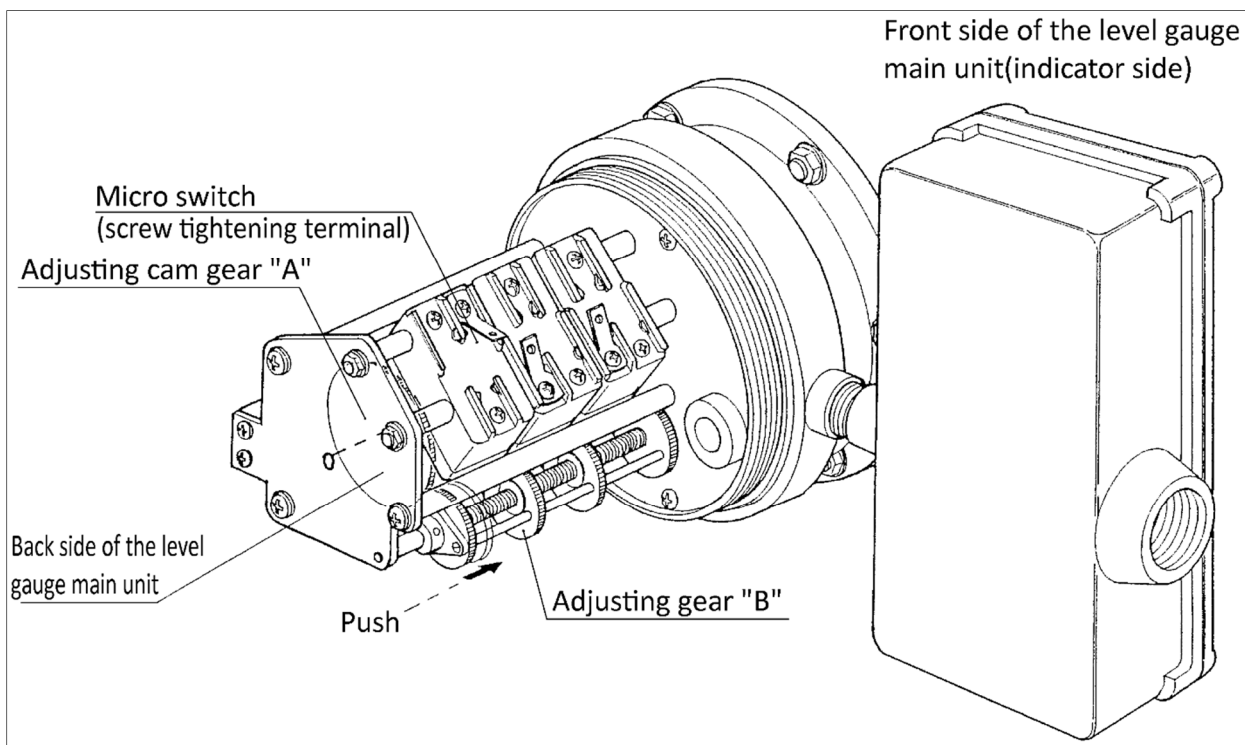

Figure 11. XT contact adjustment
- 6.3.2. Take off the transmitter cover on the back of the level gauge. Confirm the adjusting part with the contact identification attached on the micro switch assembled to the receiver on the back of the level gauge, press adjusting gear B in the direction of an arrow, and release the fit with adjusting gear A, in order to control the cam manually (Figure 11).